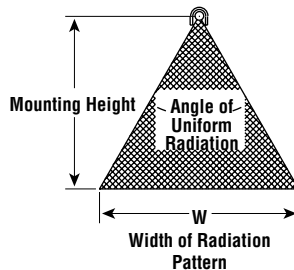

Figure 3 — Pattern Area
- Estimate** (tentatively) the radiated pattern area. Add length of fixture to the fixture pattern width (W) to establish pattern length (L). Pattern Area = $L \times W$ (Fig. 3).